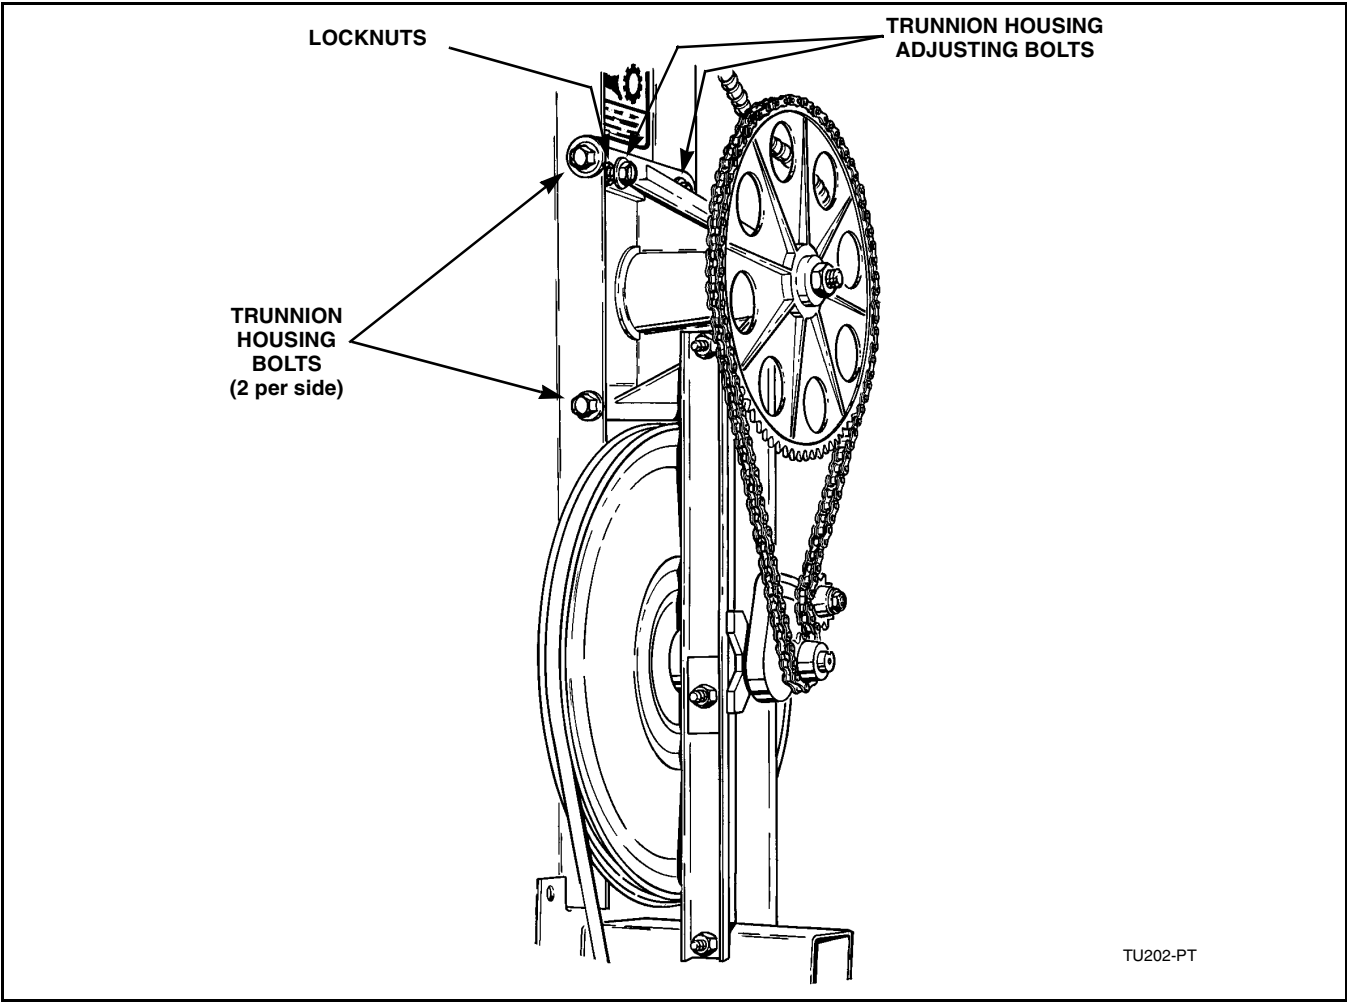

Figure 46
- Loosen the four trunnion housing bolts. Refer to *Figure 46*.
- Loosen the locknuts on the trunnion housing adjusting bolts. Refer to *Figure 46*.